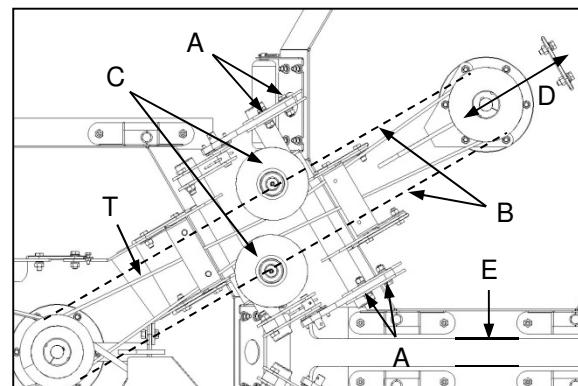

Fig. 7
- ✓ Loosen the adjuster locking nuts (Fig. 7-A) immediately behind the deck pivot pins, and allow the drive belt to lie OVER the idler pulley group (Fig. 7-C).
- ✓ Ease the rear deck backwards (Fig. 7-D) such that all slack in the belt is taken up and the belt adopts a straight line between pulleys (Fig. 7-B). Ensure also that the deck skids remain aligned with the implement direction of travel (Fig. 7-E).
- ✓ Draai die verstelsluitboute (Fig. 7-A) onmiddellik agter die dekspilpenne los, en laat die dryfband OOR die luierkatrolgroep lê (Fig. 7-C).
- ✓ Druk die agterste dek geleidelik agtertoe (Fig. 7-D) totdat daar geen speling meer in die band is nie en die band 'n reguit lyn tussen katrolle vorm (Fig. 7-B). Verseker ook dat die dekglystukke belyn bly met die implement se bewegingsrigting (Fig. 7-E).